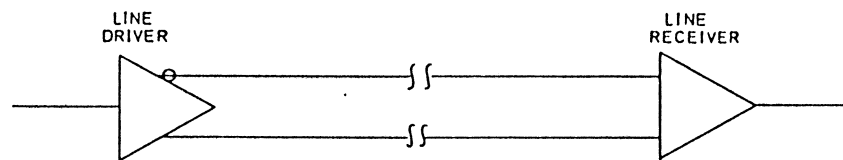

Fig. 2(a) Balanced Interchange
31. The typical remote control installation shown in fig. 2.6 uses a pair of Racal LSI2401 Data Modems which are compatible with the recommendations of CCITT V28 (for unbalanced double-current interchange circuits). The line driver and line receiver devices fitted to the RA 1792 and the MA 1075 may be used in the unbalanced V28 configuration by making no connection to the normally positive output lead of the line driver, and by earthing the normally positive input connection of the line receiver, as shown in figs. 2(a) and 2(b).